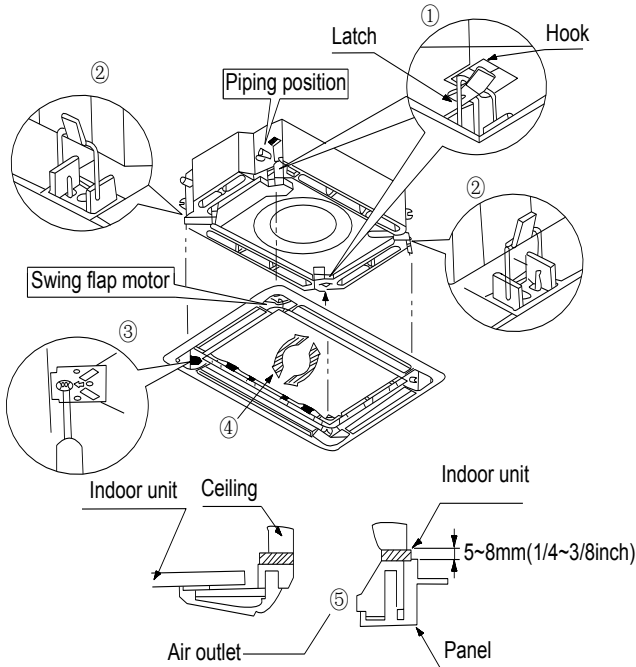

Fig. 4.35
- (1). Place the panel at the unit, and latch the hooks beside and opposite the swing flap motor.
- (2). Latch other two hooks.
- (3). Tighten four hexagonal screws under the latches about 15mm.
- (4). Adjust the panel along the direction indicated by the arrow as shown in Fig. 4.35.
- (5). Tighten the screws until the thickness of the sealing material between the panel and the indoor unit reduces to 5-8mm.